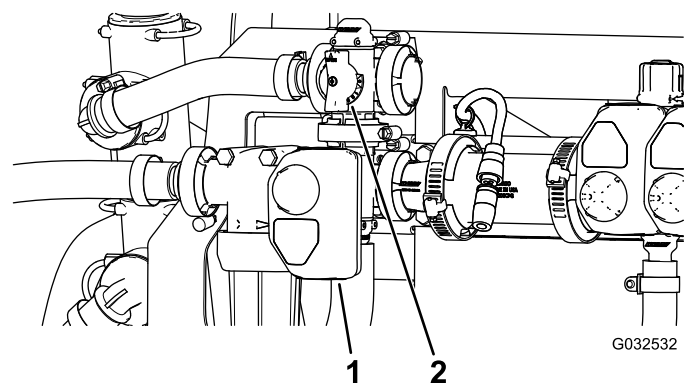

Figure 50
10. Adjust the agitation-bypass valve (Figure 50) on the backside of the agitation valve until the sprayer-system pressure is 689 kPa (100 psi).